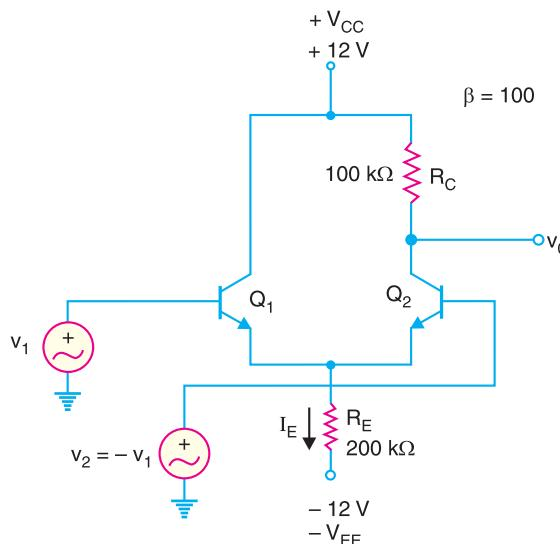

Fig. 25.33
**Example 25.16.** For the circuit shown in Fig. 25.33, find the differential-mode voltage gain.